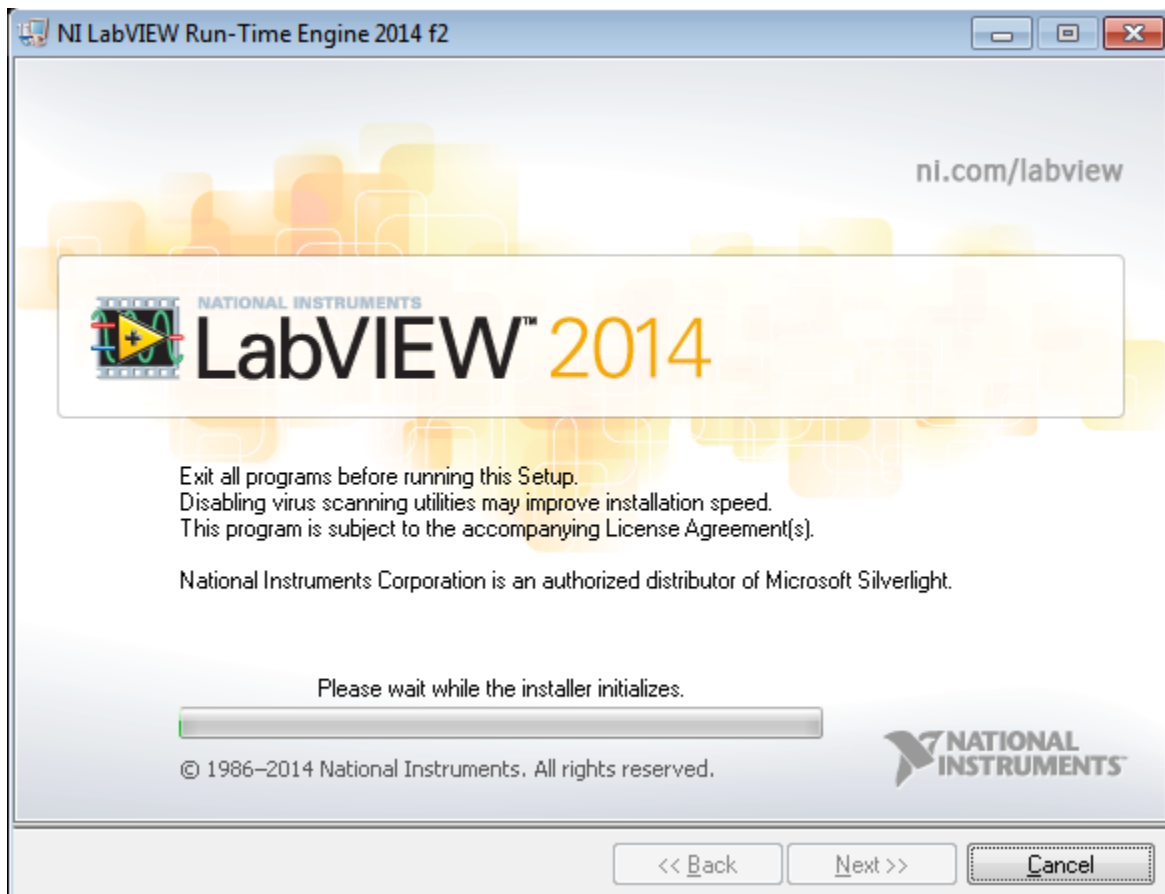

Figure 13. LabVIEW RTE Installation Initialization
11. A Screen appears as shown in Figure 13. It initializes the LabVIEW RTE Installation.